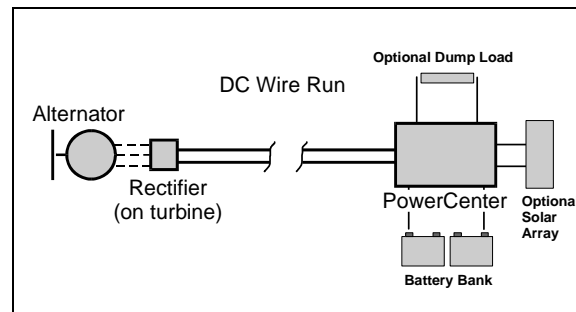

Figure 5: EXCEL 1 Basic Electrical Schematic
The basic electrical schematic for the BWC EXCEL 1 is shown in **Figure 5**. The EXCEL 1's alternator produces three-phase alternating current (AC) that varies in voltage and frequency with the rotor speed. The AC power is rectified to direct current (DC) power by a rectifier module inside the nacelle. Thus, the wire run from the wind turbine to the PowerCenter is DC.